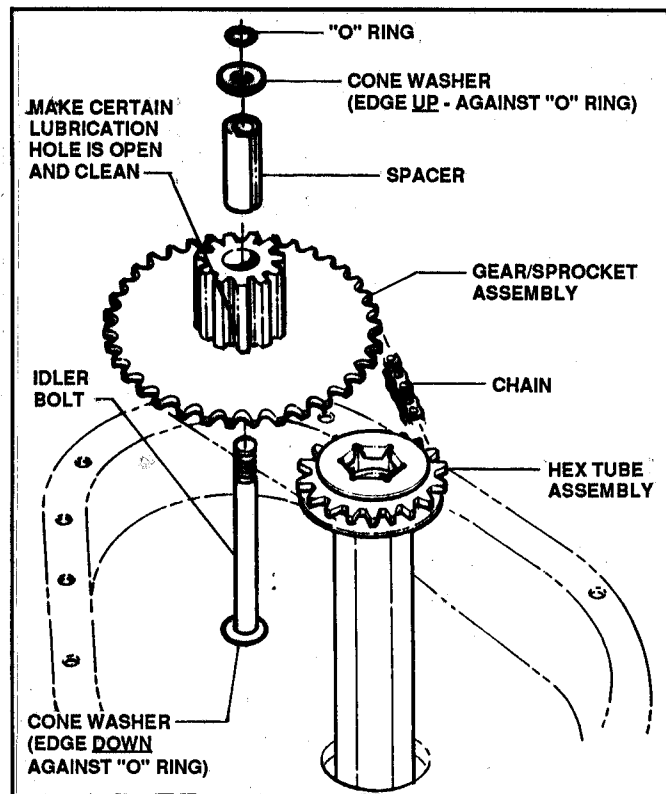

FIGURE 4.34
19. Assemble spacer, sprocket and chain, and install as a unit in case. (There is not enough clearance to install the chain and sprocket individually). Make sure the hole in the side of the 11-tooth gear is clean - this allows lubrication to reach the bearing race. See Figure 4.34.